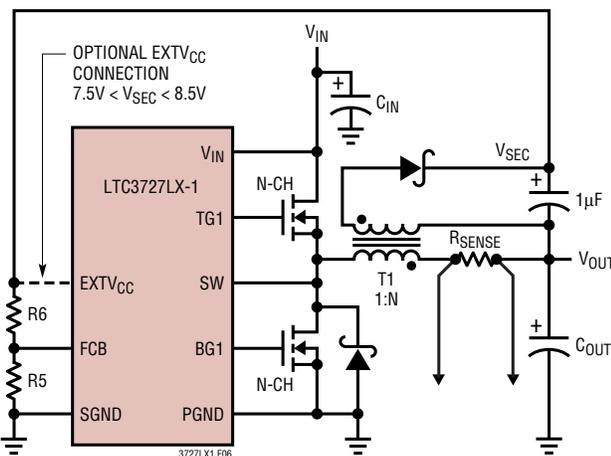

Figure 6. Secondary Output Loop &  $EXTV_{CC}$  Connection
4.  $EXTV_{CC}$  Connected to an Output-Derived Boost Network. For 3.3V and other low voltage regulators, efficiency gains can still be realized by connecting  $EXTV_{CC}$  to an output-derived voltage that has been boosted to greater than 7.5V. This can be done with the inductive boost winding as shown in Figure 6.
The secondary output voltage  $V_{\text{SEC}}$  is normally set as shown in Figure 6 by the turns ratio  $N$  of the transformer: